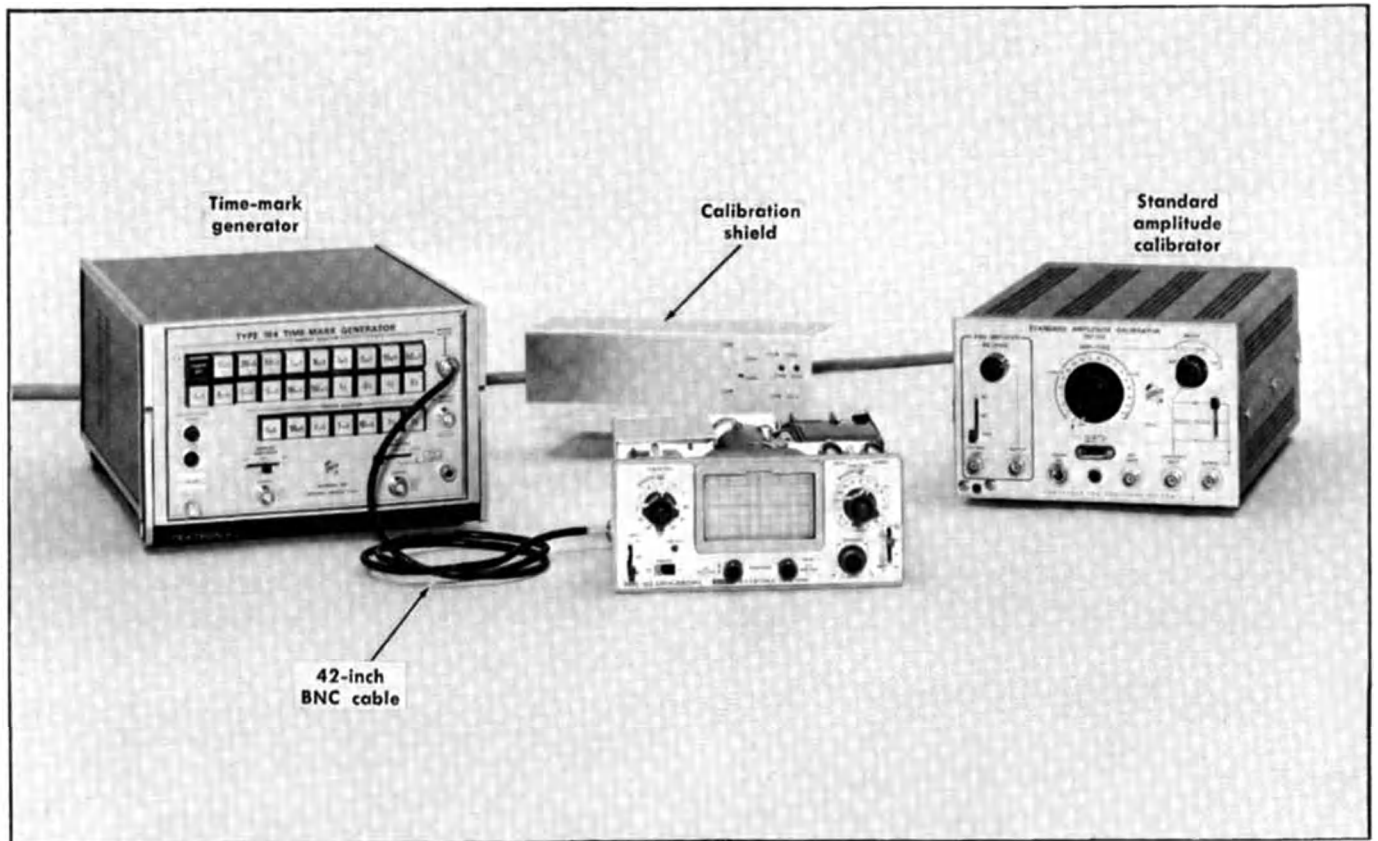

Fig. 6-6. Initial test equipment setup for steps 13 through 22.
- Test equipment setup is shown in Fig. 6-6.